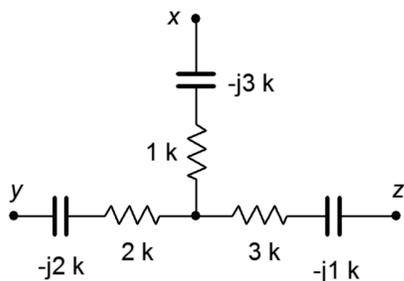

Figure 5.34
60. Determine the equivalent delta ( $\pi$ ) network for the circuit of Figure 5.34.